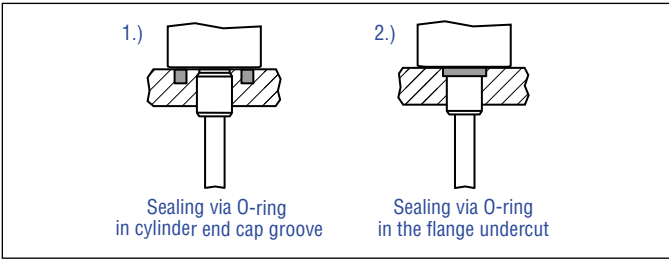

Fig. 15: Possibilities of sealing
- There are two ways to seal the flange contact surface (Fig. 15):